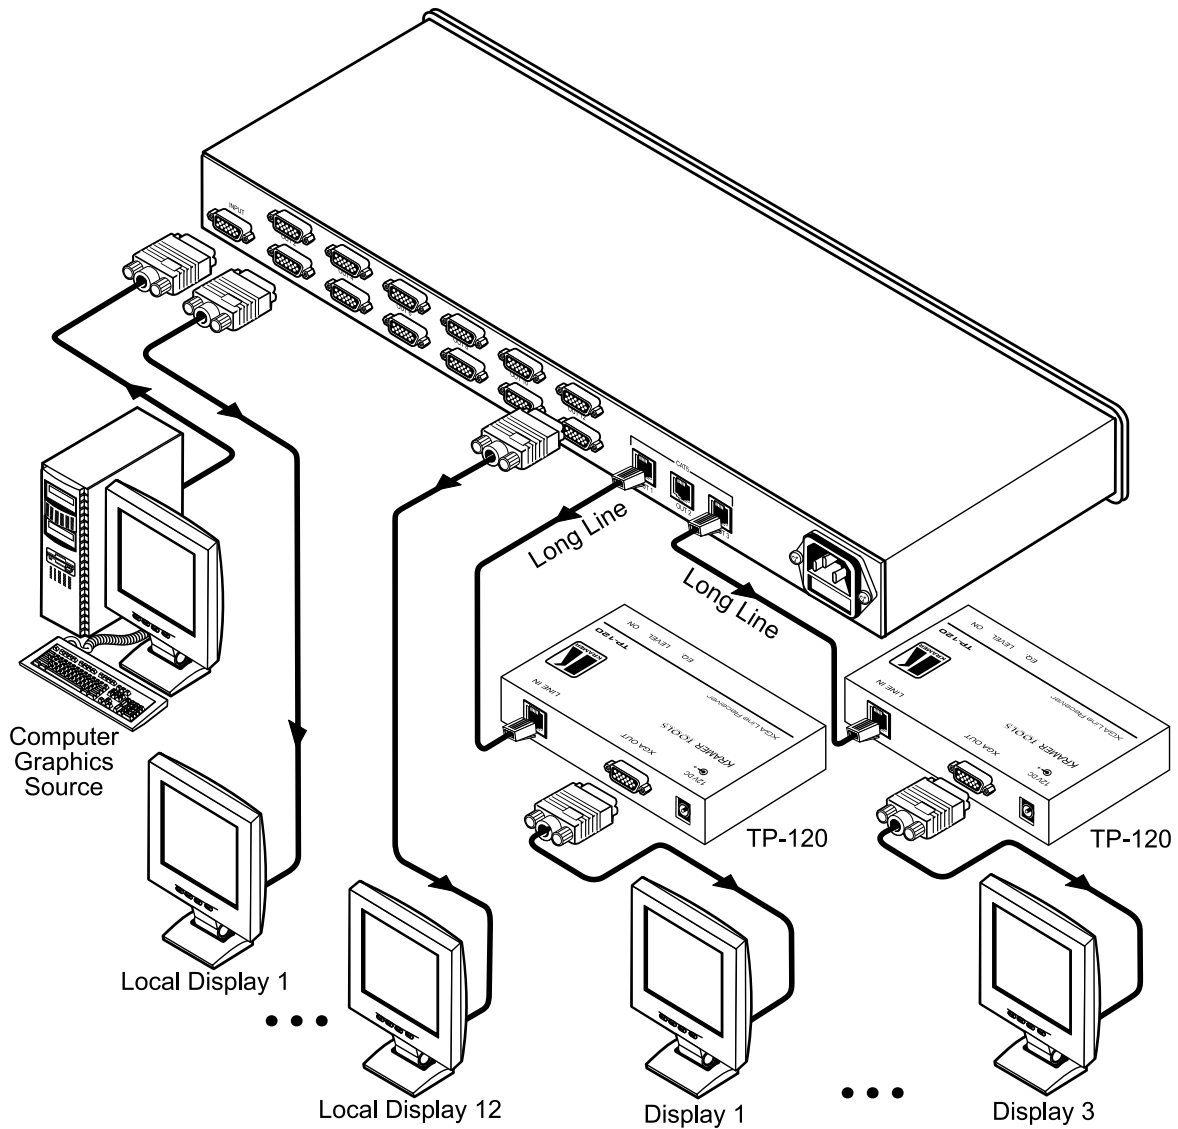

Figure 3: Connecting the VP-12NHD 1:12 + 3 UXGA / CAT5 Distributor
This section describes how to connect the **VP-12NHD 1:12 + 3 UXGA / CAT5 Distributor**. The example in Figure 3 illustrates how to output a computer graphics signal from a computer to up to 12 local monitors, as well as how to transmit it over UTP cabling to 3 **TP-120 XGA Line Receiver** units.
5. Connect the power cord3 (not illustrated in Figure 3).